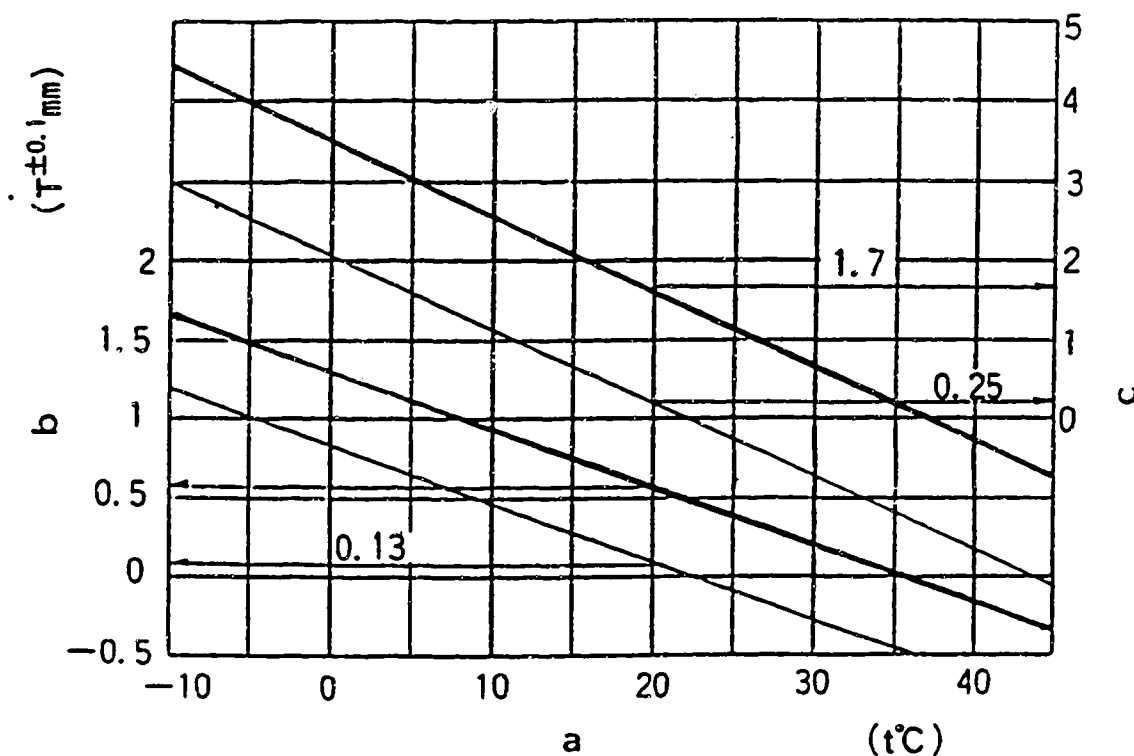

Figure 41
- 1) Calculate the timer stroke from Fig. 41 according to the atmospheric temperature at the time of adjustment.
Formula for calculating (Figure 41)
- 1) Calculate the block gauge dimension  $l \pm 0.05$  mm from (Fig. 41) according to the atmospheric temperature at the time of adjustment.